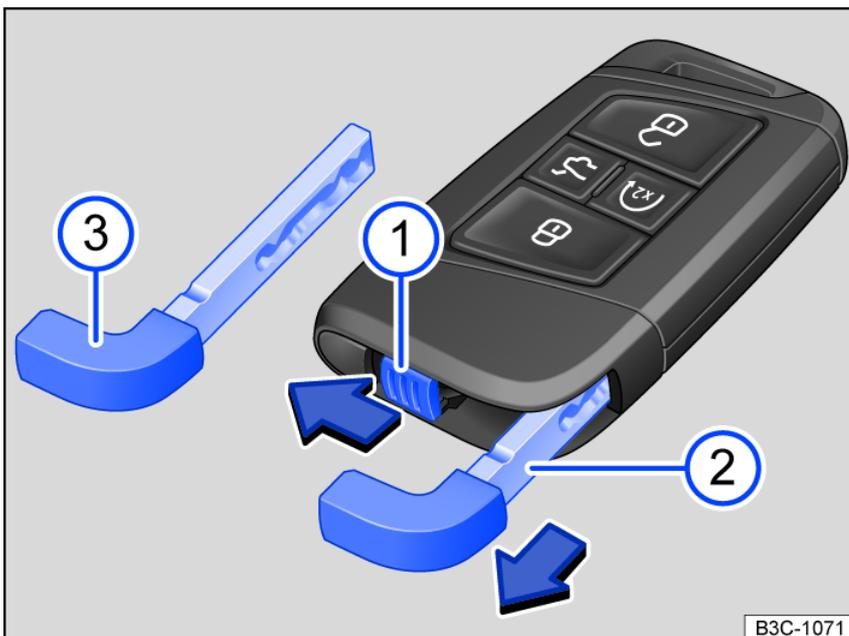

Fig. 50 Vehicle key: releasing the mechanical key.
Key for *fig. 50*:
- ① Push the locking mechanism in the direction of the arrow.
- ② Remove the mechanical key in the direction of the arrow.
- ③ Mechanical key.
There is a mechanical key *fig. 50* ③ located in the vehicle key that can be used to manually unlock and lock the vehicle.